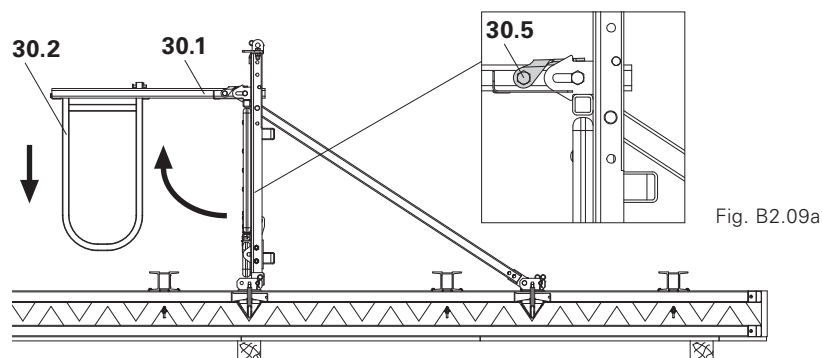

Fig. B2.09
8. Attach push-pull props and kickers. (Fig. B2.09 + B2.09a)